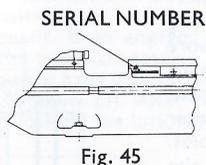

Fig. 45
1. Type and Serial Number of the lathe, and in the case of lathes with gearboxes fitted, also the serial number of the gearbox. For location of numbers see Figs. 45 and 46.